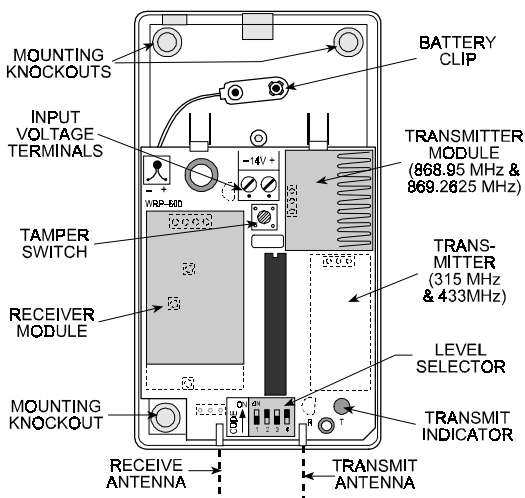

Figure 5. MCX-600, Cover Removed
B. Mount the base (equipped with the printed circuit board) in the selected location, using the mounting knockouts (see Fig. 5).